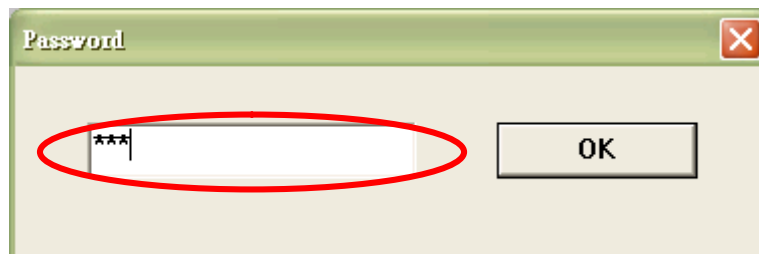

Fig. 2 Password entering for 「Setting」 Function.
■ Password Entering:(see the Fig. 2)